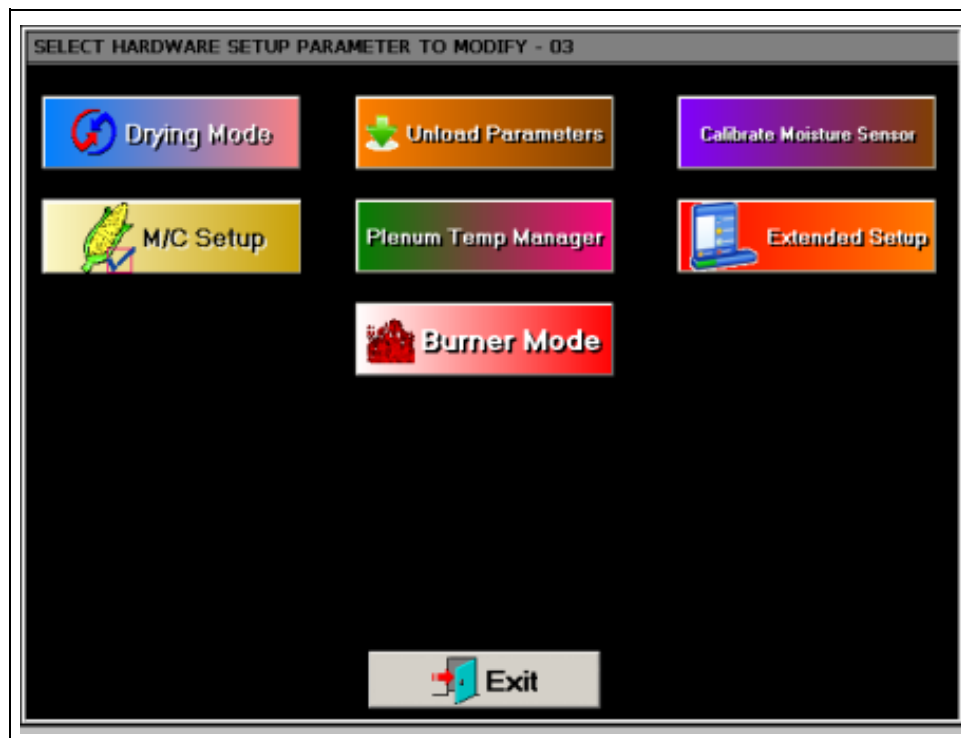

Figure 3F
- When the “Select Hardware Setup Parameter To Modify” screen appears (which will be referred to as the “Setup Screen” for the remainder of this manual), press the  **Unload Parameters** button. (See Figure 3F.)